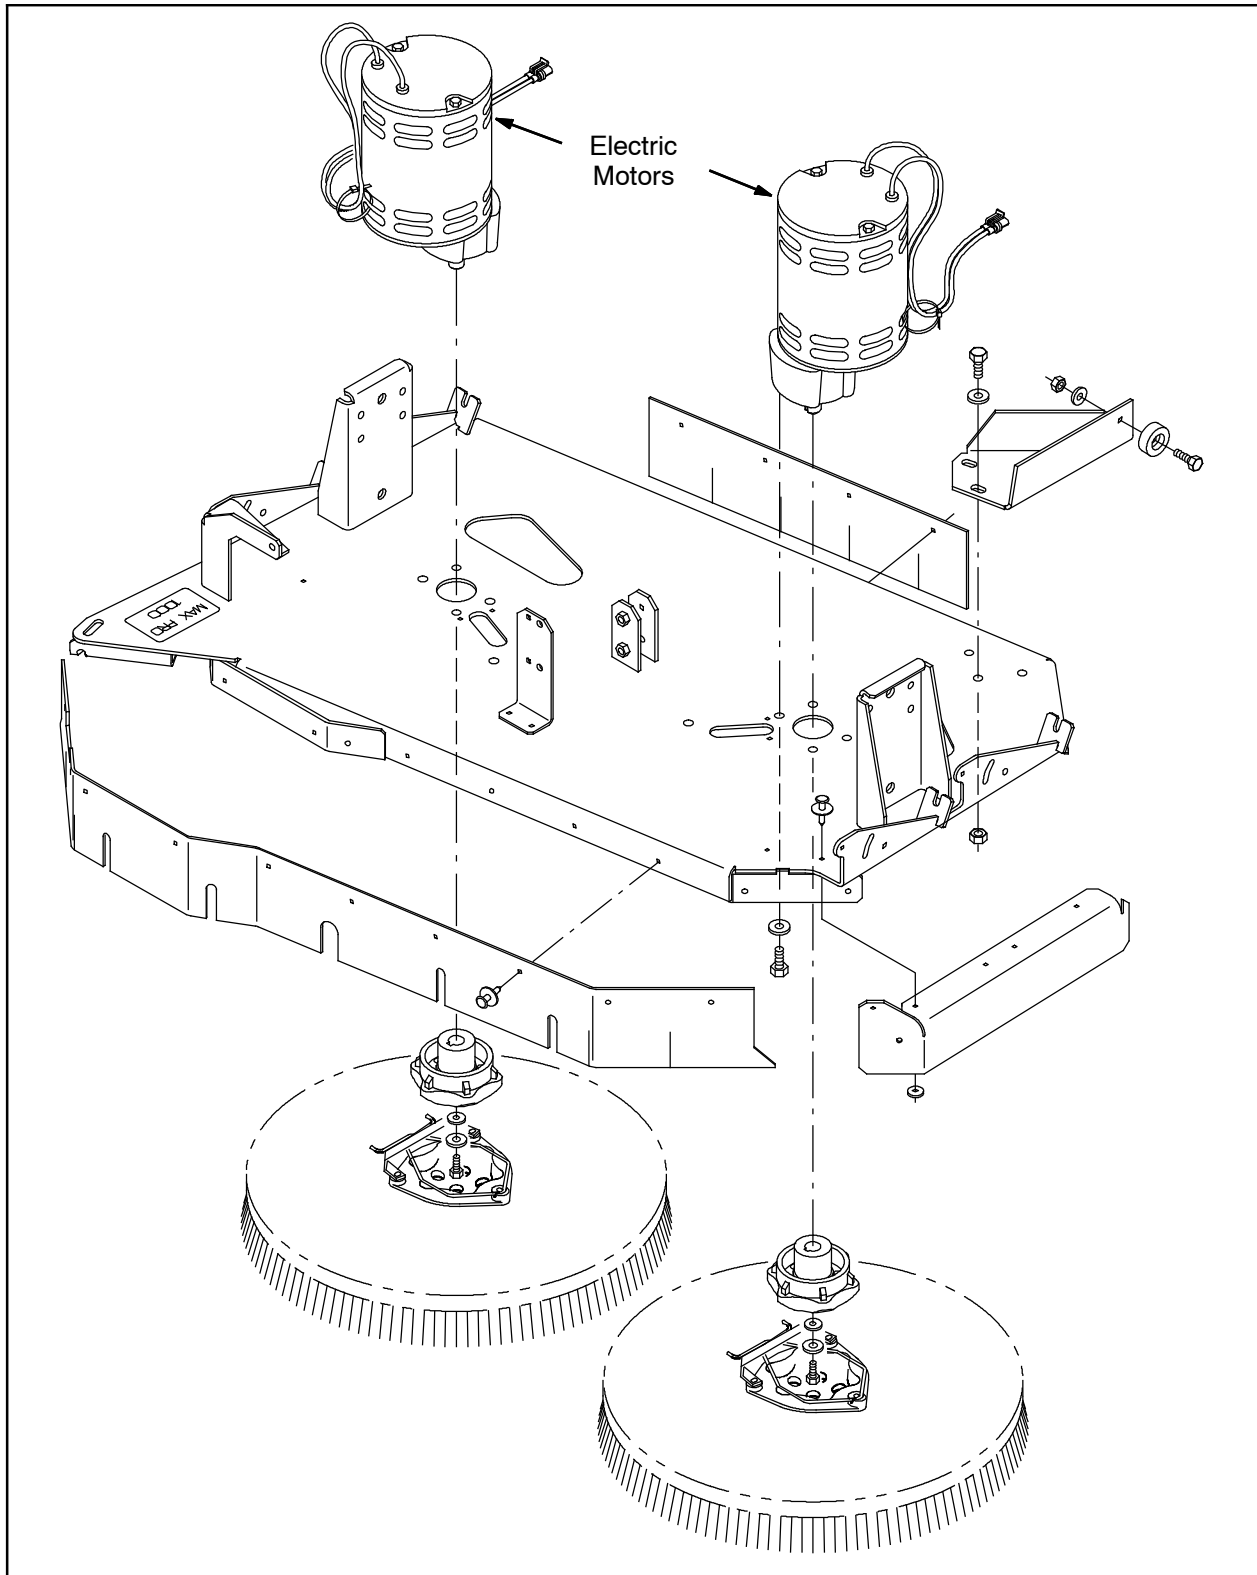

FIG. 1 - Max Pro 1000 HD Scrub Head Frame Group
8. Disconnect the two scrub brush motors and shunt from the main harness. (Fig. 1)
4. Ensure the scrub brushes are installed on the new scrub head. (Fig. 1)